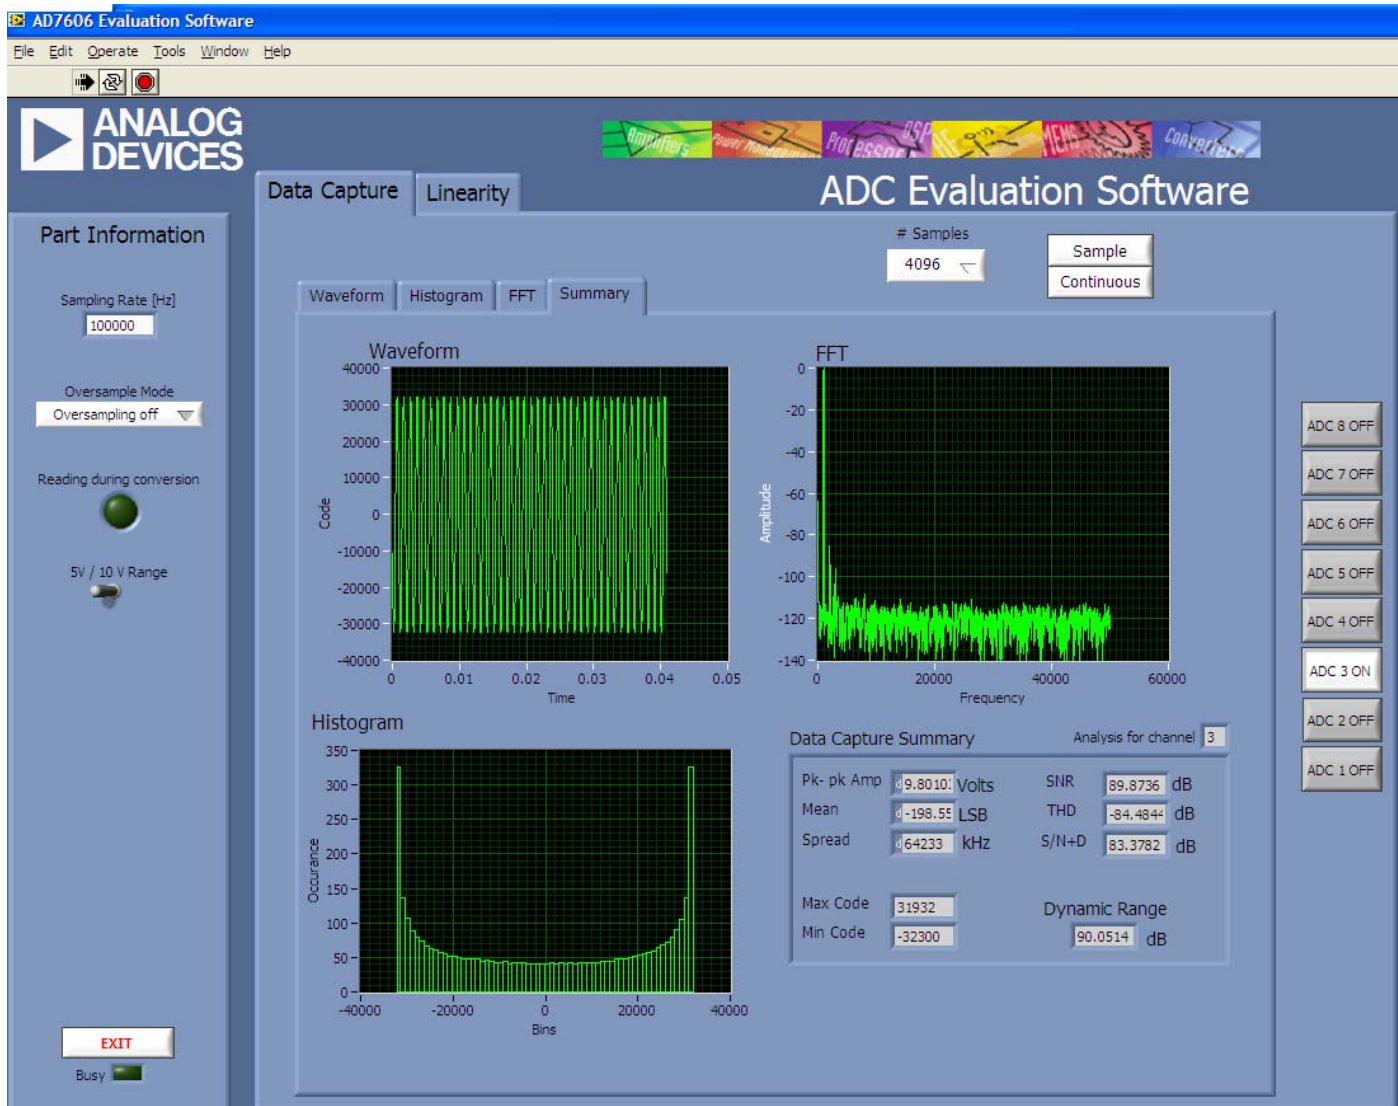

Figure 3. AD7609 Main Window
2. Click the **AD7609 icon**. Figure 3 displays the main window that is opened.
The software that controls the EVAL-CED1Z and, therefore, the AD7609 evaluation board, has two main windows. Figure 3 shows the window that appears when the software is run. The main function of this window is to allow you to read a predetermined number of samples from the evaluation board and display them in both the time and frequency domain. The top portion of the screen contains the menu bar and the screen can be divided into three main sections: **Part Information**, **Data Capture**, and **Linearity**. The **Data Capture** tab consists of four subtabs: **Waveform**, **Histogram**, **FFT**, and **Summary**. The **Linearity** tab enables you to generate a linearity plot for the device. **The Linearity tab is only available for the AD7609 version.**
The FFT tab displays an fast Fourier transform (FFT) plot. The FFT is typically used for examining the performance of the ADC in the frequency domain. The **Spectrum Analysis** section contains information about the samples taken, such as ac specifications (see Figure 3).